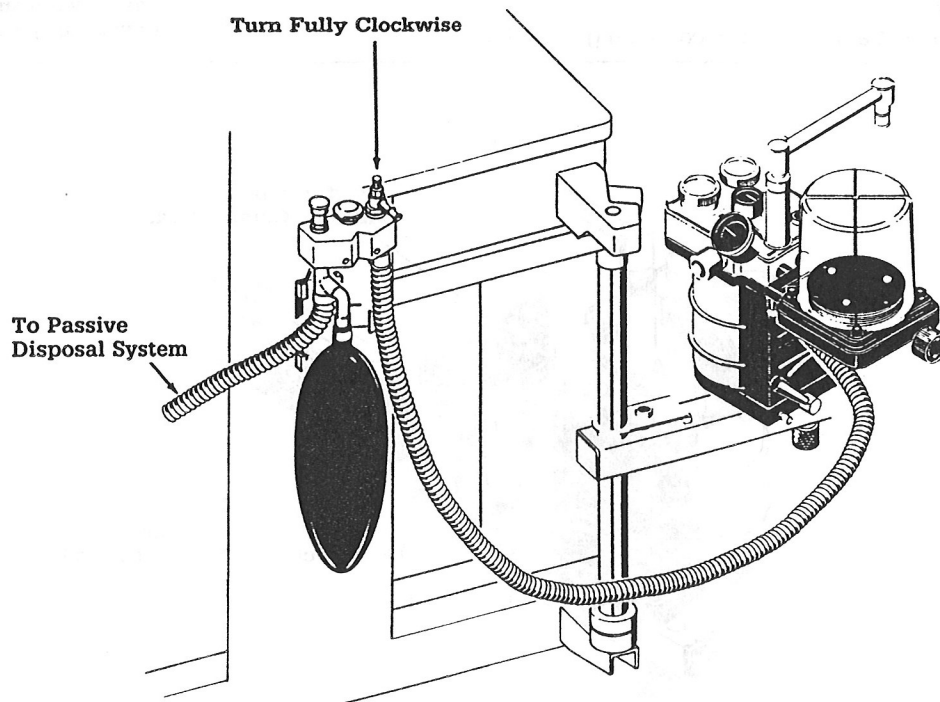

Figure 2-26
3. A connector is mounted next to the waste gas scavenging interface valve on the interface valve assembly. Securely attach the free end of yellow-banded, 19-mm tube to an unused connector at the bottom of the assembly. (See figure 2-26.)